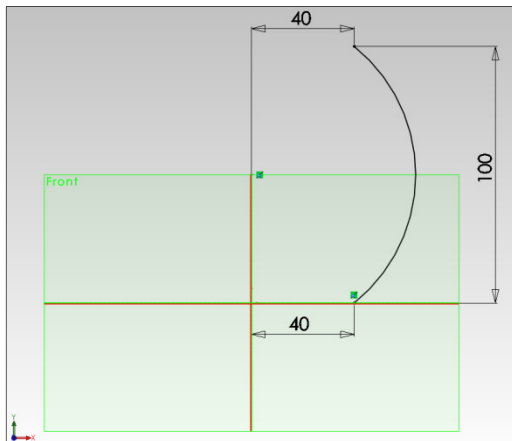

Fig.3
1. In Front plane **Sketch**  profile for **Revolved Surface** : Fig.3